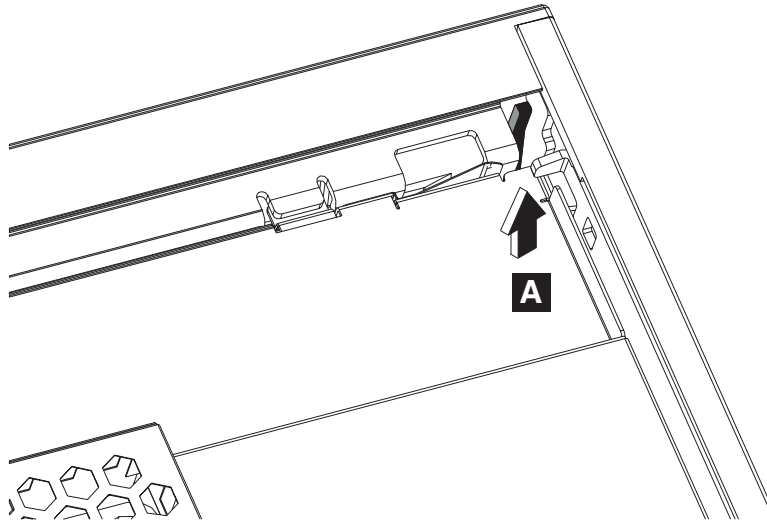
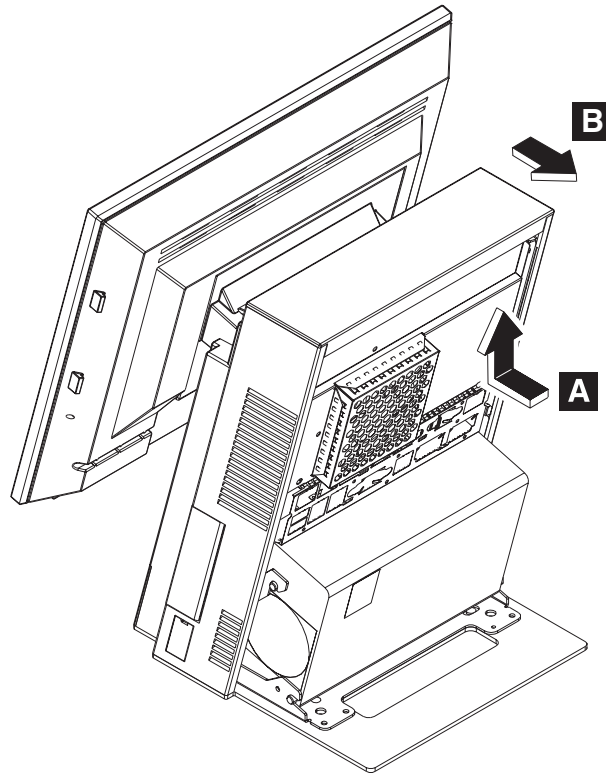

Figure 20. Removing top cover
Figure 21. Releasing top cover
2. Facing the rear of the system, use a screwdriver to lift the tab **A** while pulling the top cover toward the rear. See Figure 21 on page 41 and Figure 20.